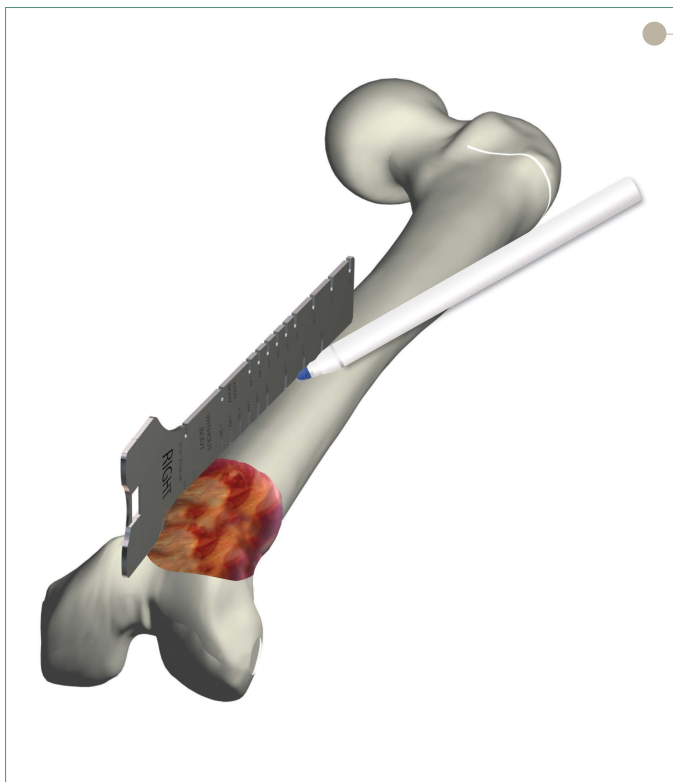

Figure 4: Marking for Rotational Alignment
- ▶ Using a straight edge, the anterior cortex of the distal femur is marked above the resection level in line with the trochlear groove of the distal femur (**Figure 4**).